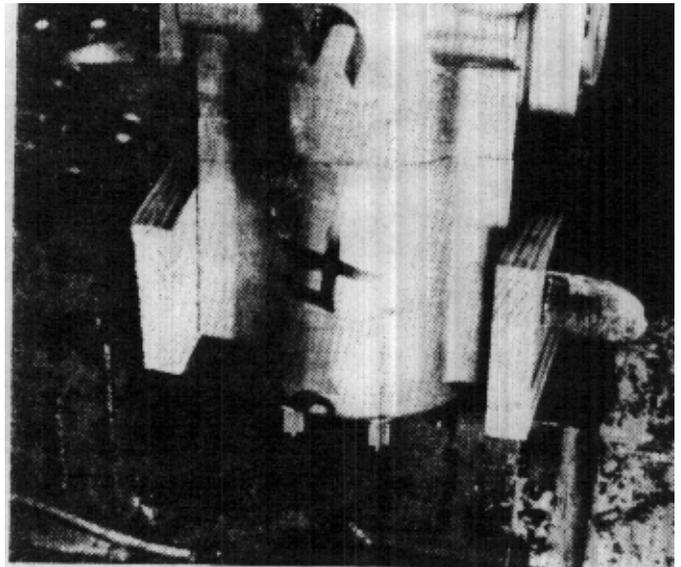

FIGURE 75
3. Securely fasten the motor in a machinist's vise, shaft up. Use a cream block of wood between each flat side of the motor and the vise jaws. This will protect the machined surfaces from damage which would cause leakage at port connectors. (Fig. 75)